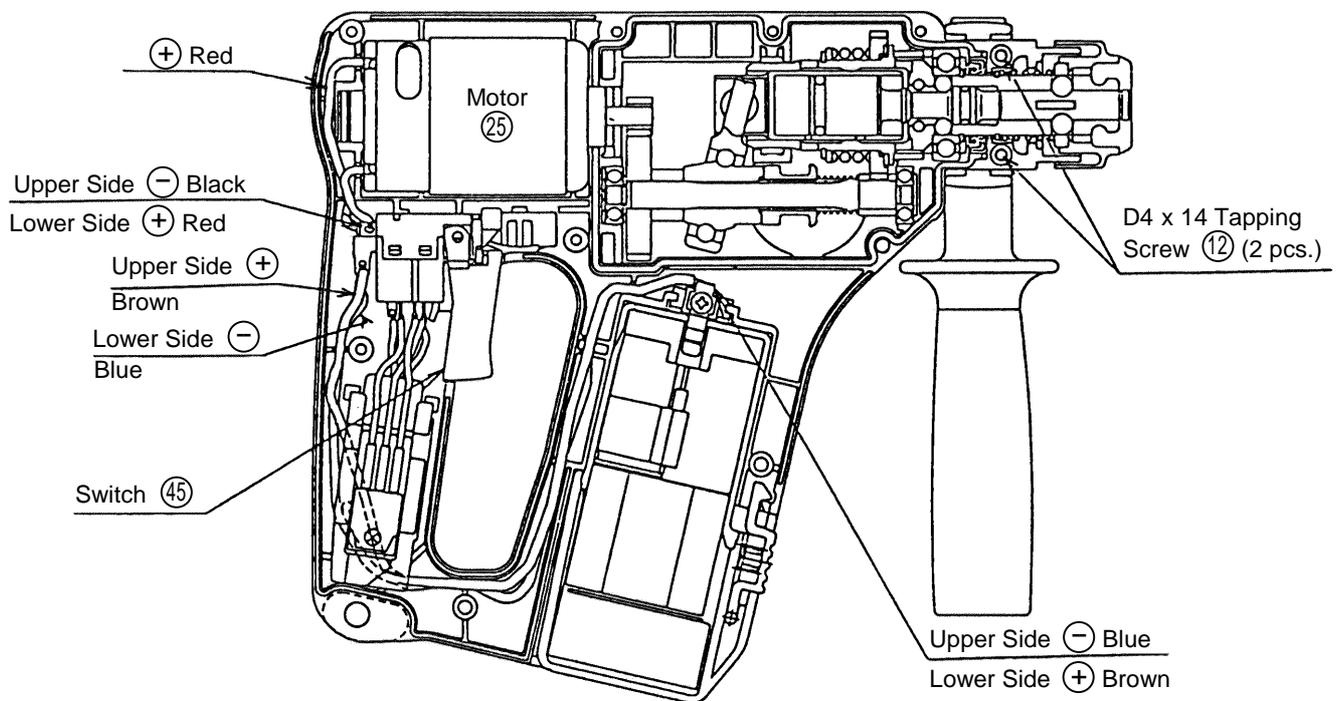

Fig. 2 Wiring Arrangement and Part Locations
- (1) Refer to Fig. 2 for wiring arrangements.
- (2) When installing the Terminal Piece (51) and Motor Ass'y (25) into Housing (A), be very careful not to mistake their positive and negative polarities (see Fig. 2). As the blue and brown leadwires cross between the terminals, carefully ensure they are properly connected as illustrated.
- (6) When installing the two D4 x 14 Tapping Screws (Class 2) (27), be very careful not to install the D4 x 20 Tapping Screws (W/Flange) (28) (black color) by mistake. Their positions are clearly designated (see Fig. 2).
- (7) Tightening Torques: